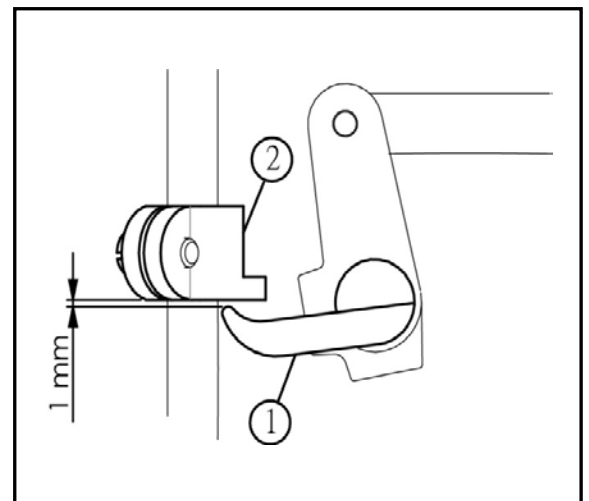

Fig. 5
1. Make sure to leave a clearance between the presser bar lifter lever ① and the presser bar connecting bracket ② to 1 mm when the presser foot closely touches the stitch plate. (Fig. 5)